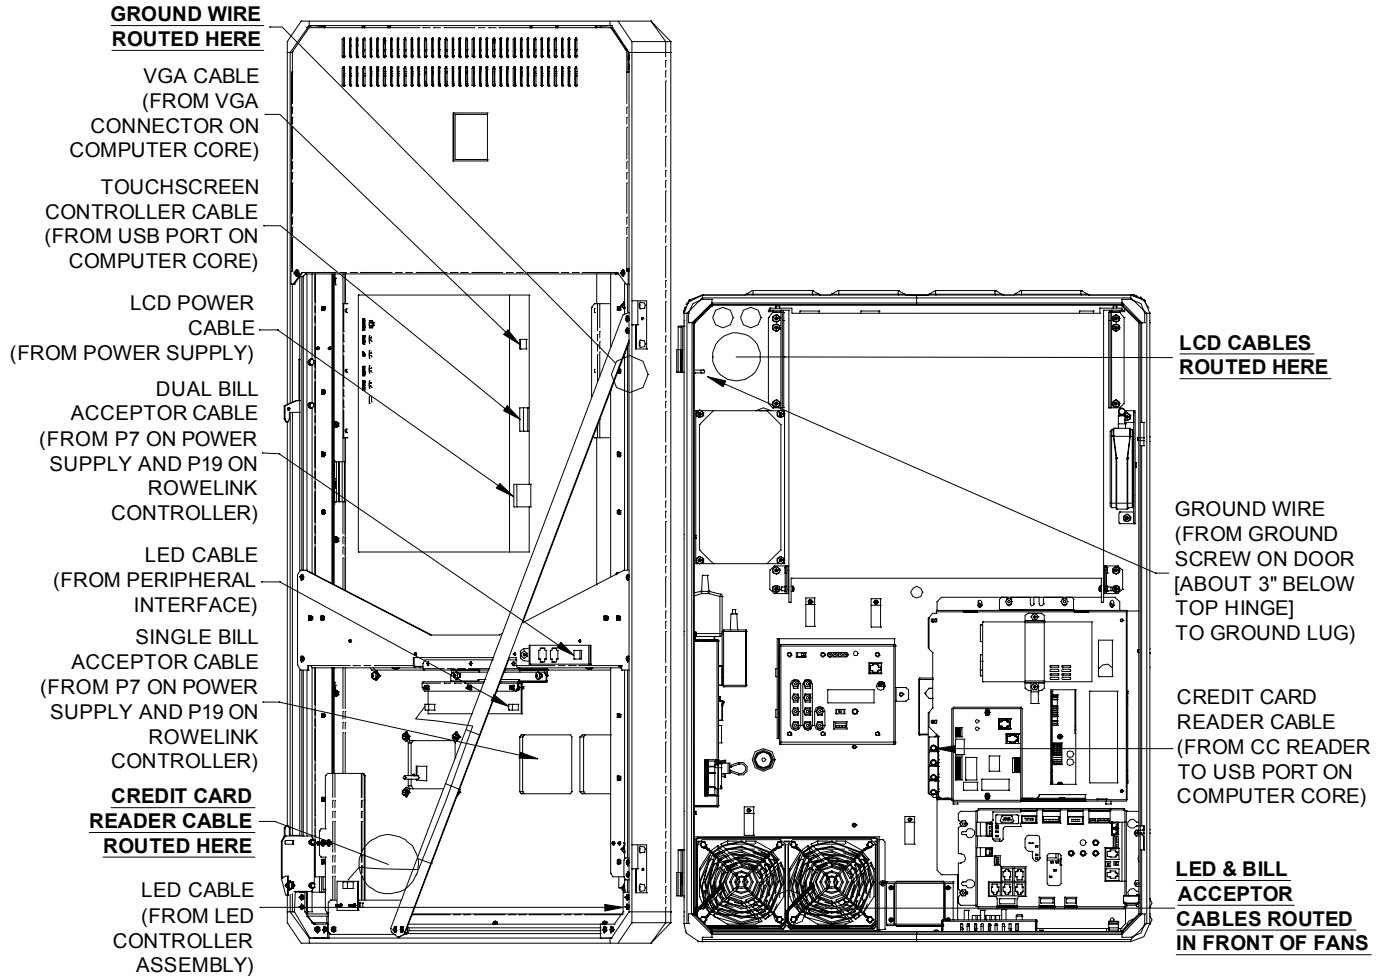

Figure 7-B – Inside View of Jukebox with Front Door Opened
8. Using *Figure 7-B*, locate the free ends of the 3 LCD cables, 2 LED cables and bill acceptor cable inside the cabinet. Connect these cables from the front door to the cabinet as shown in *Figure 7-B*.
9. Using *Figure 7-B*, locate the free ends of the credit card reader and ground wire cables on the door. Connect these cables from the front door to the cabinet as shown in *Figure 7-B*.